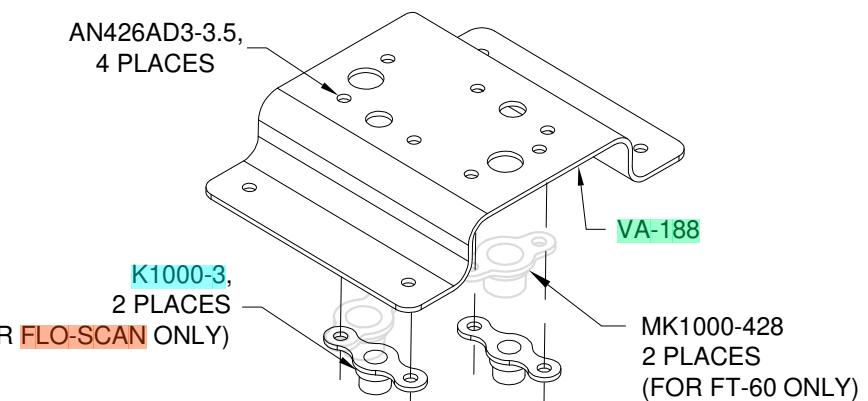

FIGURE 3: FLO-SCAN MOUNT BRACKET NUTPLATE INSTALLATION
Step 10: Remove the F-1072-1 Fwd Bottom Skin from the F-1048 Fwd Fuselage Ribs. See Page 28-6, Figure 3.
Final-Drill #40 the nutplate attach holes in the flo-scan mount bracket. Final-Drill #12 and 1/4 the nutplate screw holes in the flo-scan mount bracket. See Figure 3.
Dimple the rivet holes in the flo-scan mount bracket. See Figure 3.
Step 1: Dimple the nutplates that will be installed to the VA-188 Flo Scan Mount Bracket. Rivet nutplates to the flo scan mount bracket as shown on Page 28-10, Figure 3.